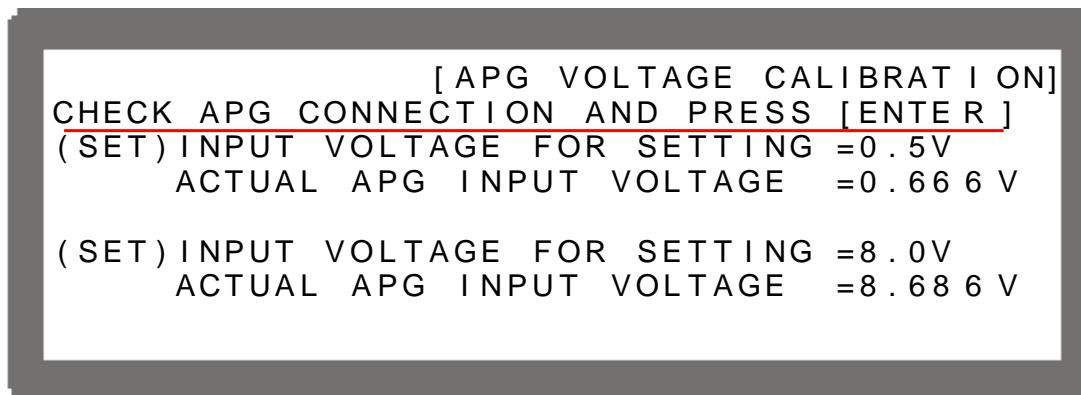

Figure 3-118
2. Press “**ENTER**” to confirm entering into APG Voltage Calibration options as Figure 3-118 shows.